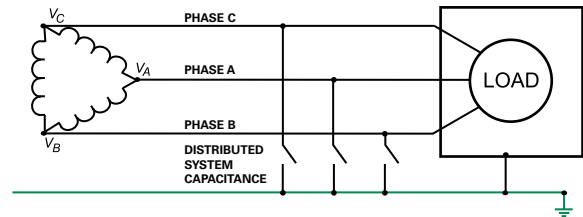

FIGURE 4
Ungrounded AC systems, as shown in *Figure 4*, were used where continuity of power was critical. For example, chemical plants or refineries involving processes that cannot be interrupted without extensive dollar or product loss may have an ungrounded system. However, experience has proven that these systems are problematic and are being replaced with resistance grounded systems. Two major problems with ungrounded systems are transient overvoltages and difficulty locating ground faults.
- An ungrounded system has no point in the system that is intentionally grounded (other than the normal bonding which is always present to connect the non-current-carrying metal parts to ground). Grounding occurs only through system capacitance to ground (as shown in *Figure 4*).